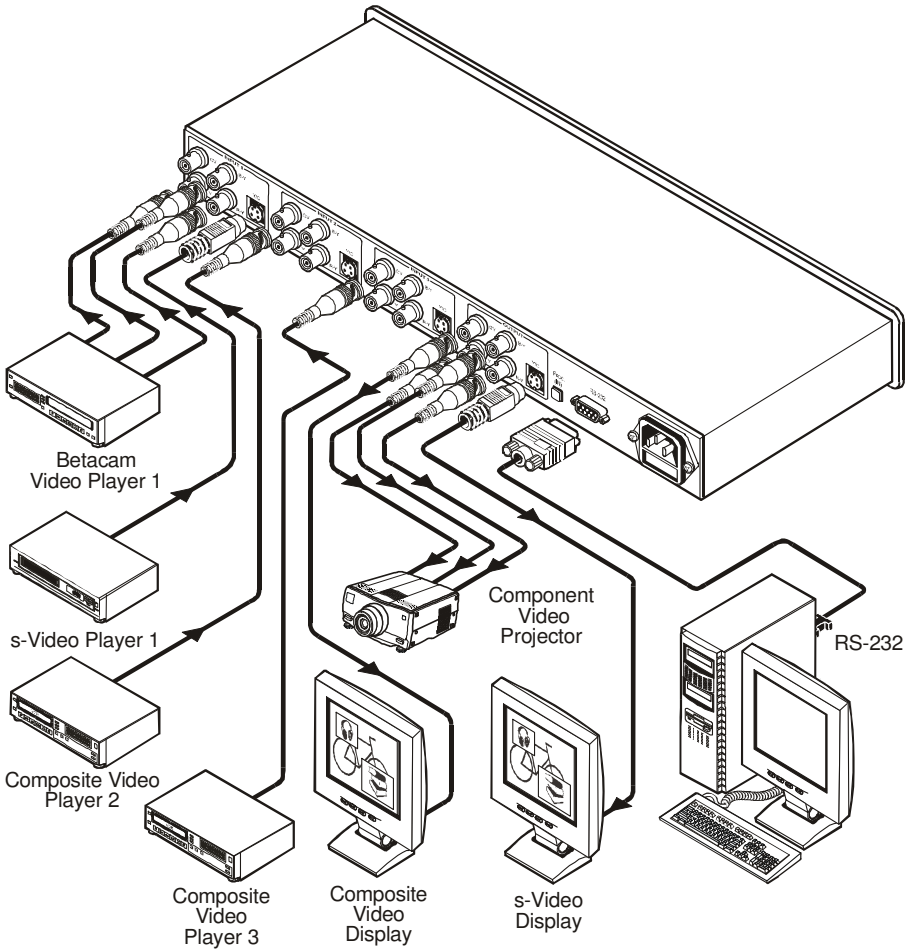

Figure 3: Connecting the PIP-300 Picture in Picture Inserter
To connect your **PIP-300**1, as the example in Figure 3 illustrates, do the following2:
6. Connect the power cord6 (not illustrated in Figure 3).